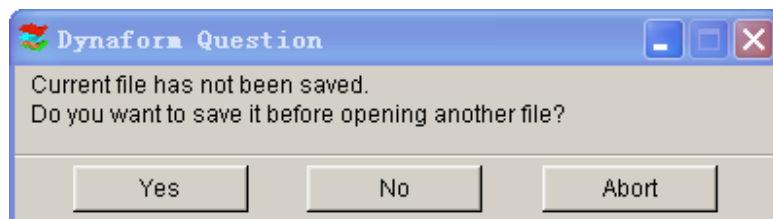

Figure 3.2.1 Open File Prompt
- If there is already an opened database, eta/DYNAFORM prompts the user to save the current file. See Figure 3.2.1.